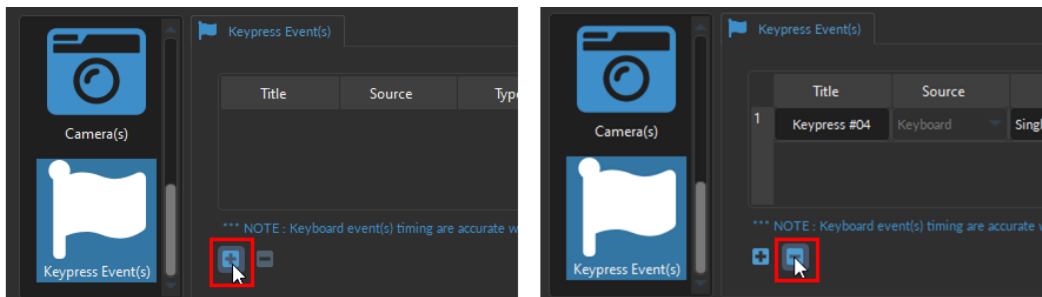

Figure 8.21: Adding and Removing Keypress Events
To add a new **Keypress Event**, select the + sign at the bottom of the window (Fig. 8.21, left). To remove a Keypress, use the - button (Fig. 8.21, right).
- **NOTE:** Selecting the + button (without clicking the *Add* button or the *Close* button of the *Channel Configuration* window) will **automatically** add the Keypress Event channel at the **bottom** of the Acquisition View window, below any pre-existing channels (Fig. 8.21).